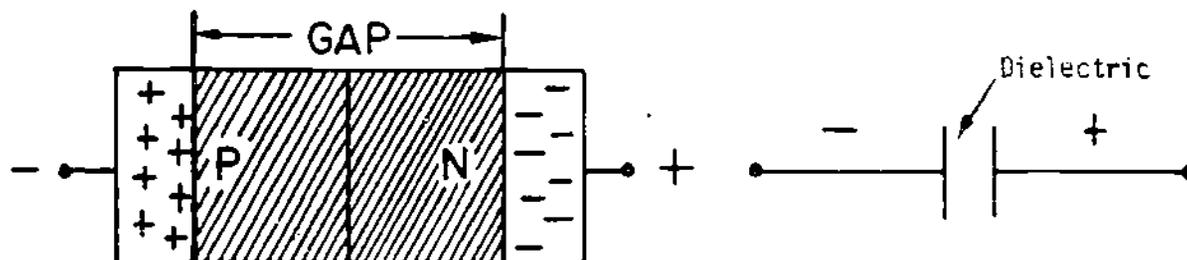

Figure 20
(22) A reverse bias voltage applied to a varactor causes an insulation gap to form between the charged particles in the P and N materials. The gap has a reduced number of current carrying particles. Therefore, the gap can be compared to the dielectric of a capacitor as shown in Figure 20.